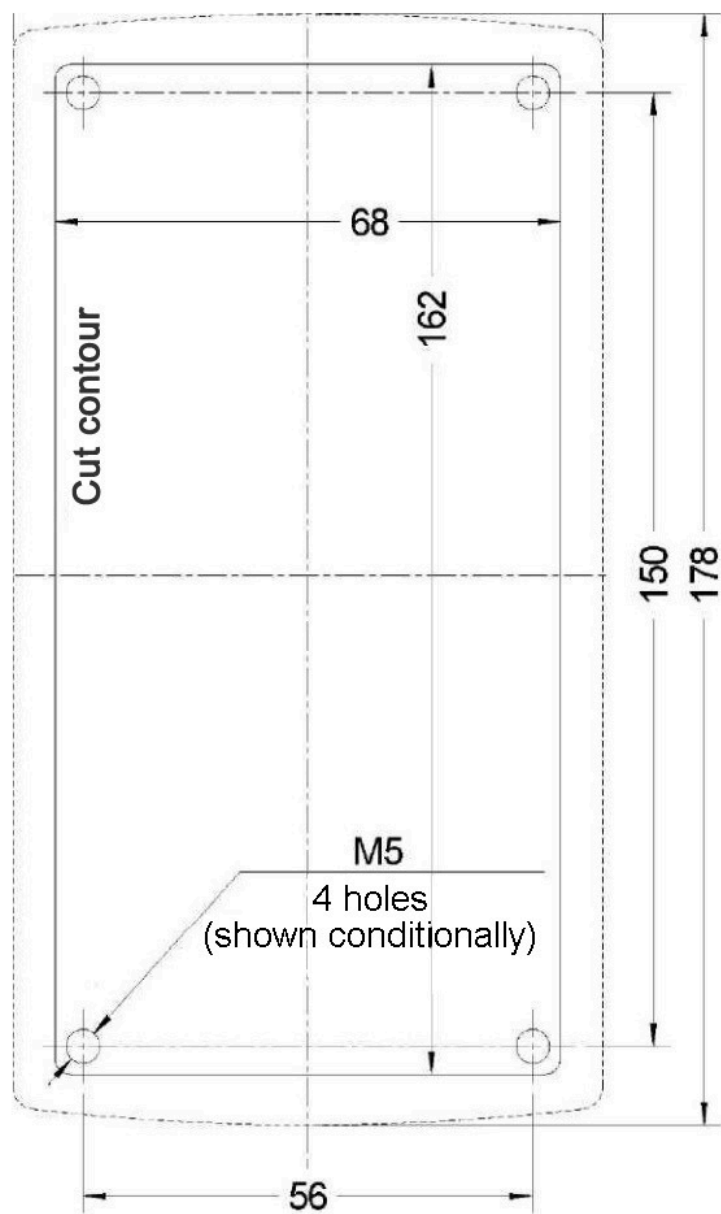

Fig. 1 Markup for outdoor panel installation
10. 2. Prepare a niche for installing the outdoor panel (see the markup in Figure 1).